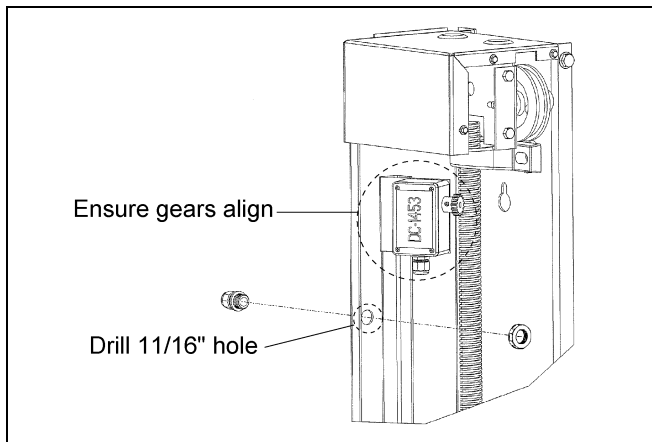

Figure 2
3. Carefully attach the potentiometer bracket to the bolt. With minimal rotation of the gear, make sure that the gear is riding in the threads of the drive screw. (See Figure 2.) The gear must be positioned so that it has sufficient travel when the curtains or baffles are moving.
4. Drill a 11/16" hole 3" below the potentiometer box (see Figure 2) and install a watertight cord connector. Start threading the wire clamping nut onto the connector. Run the potentiometer wires through the cord connector. Tighten the wire clamping nut locking the wires in place.